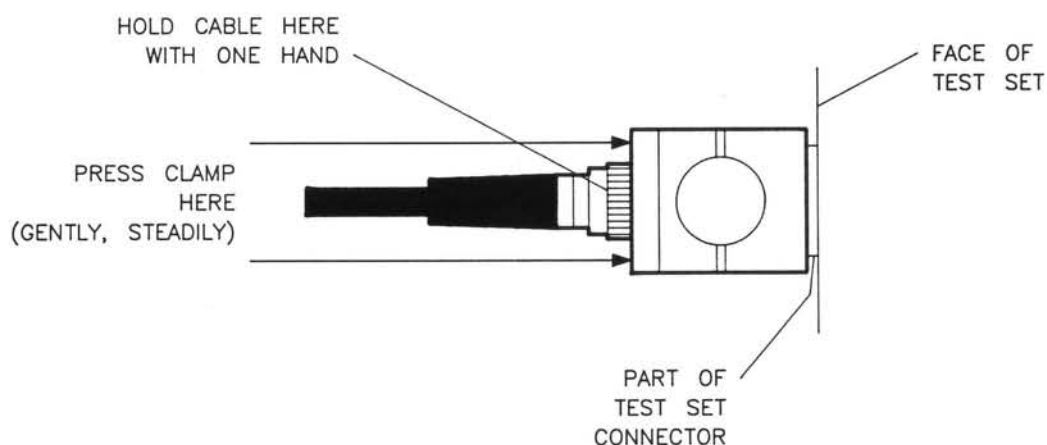

Figure 2. Mating the Clamp and Nut Flats
- See Figure 2. Hold the cable with one hand and with the other, press the clamp gently and steadily while wiggling the clamp straight over the RF connector and onto the test port connector nut. The internal flats in the clamp must fit over the flats on the test port connector nut. Try not to rotate the clamp as you do this or the RF connection may be loosened.